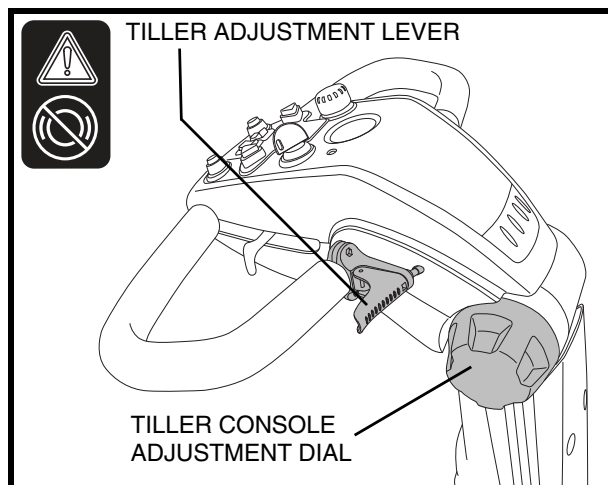

Figure 14. Tiller Adjustment
1. Squeeze the tiller adjustment lever. See figure 14.
1. Loosen the adjustment dial (turn counterclockwise) and move the tiller console up or down to a comfortable riding position. See figure 14.